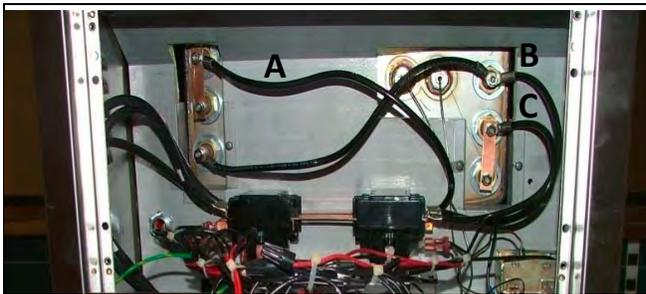

Figure 1.
Checking Amp Draw (see figure 1)
2. Attach ammeter (amp clamp) to one wire of the upper heater (figure 1 point A).
4. Repeat steps 1 – 3 for figure 1 point B and C. The amp draw for each wire should be close to the same.